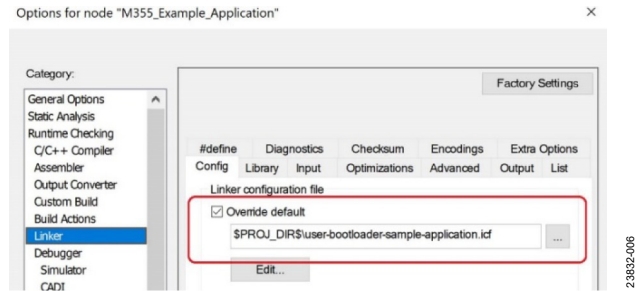

Figure 5. Specify Custom Linker Configuration File
Loading the custom linker file can be achieved from within the IAR Embedded Workbench® environment by accessing the **Linker > Config** tab, as shown in Figure 5. See the Conversion Steps section for the full procedure.
4. Select the custom linker configuration file from within the IAR Embedded Workbench by accessing the **Linker > Config** tab as shown in Figure 5. Select the **Override default** box, and browse for the **user-bootloader-sample-application.icf** file.